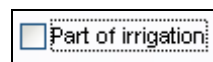

Figure 16.10.12D
- Uncheck the **Part of Irrigation** box if this Point of Connection will be used for non-irrigation purposes only (Figure 16.10.12D).